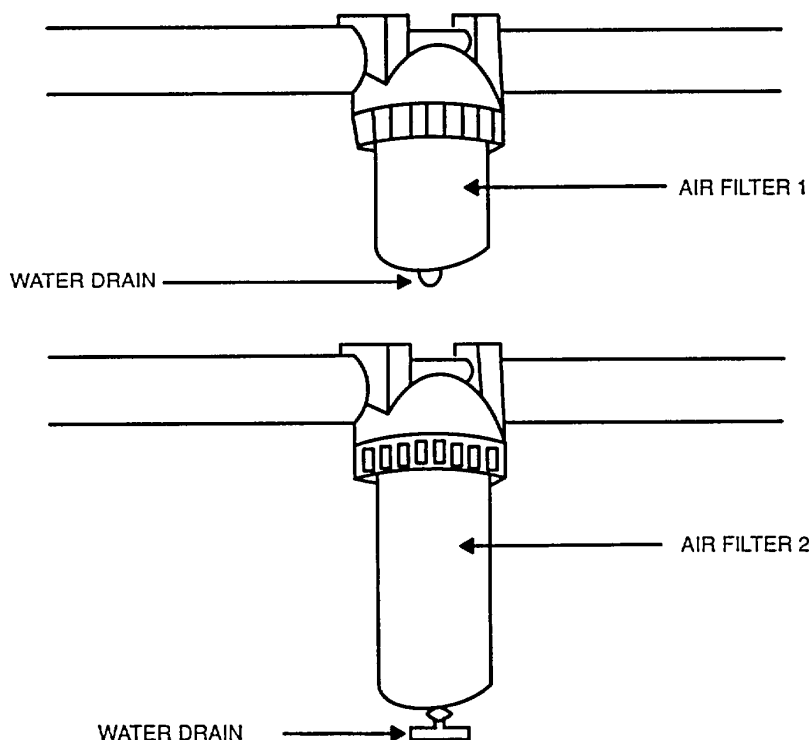

Figure 3-5. Exterior View of Air Filter 1 and Air Filter 2
- d. Drain air filters 1 and 2 by opening drain valves on bottom of filters (Figure 3-5). When water and moisture have drained, close drain valves.
- f. Turn adjusting screw on bottom of pressure regulators 1 and 2 counterclockwise until screw turns freely (Figure 3-5).
- d. Drain air filters 1 and 2 by opening drain valves on bottom of filters (Figure 3-5). When all moisture has drained, close valves.
- e. Open drain valves on bottom of air filters 1 and 2 (Figure 3-5).